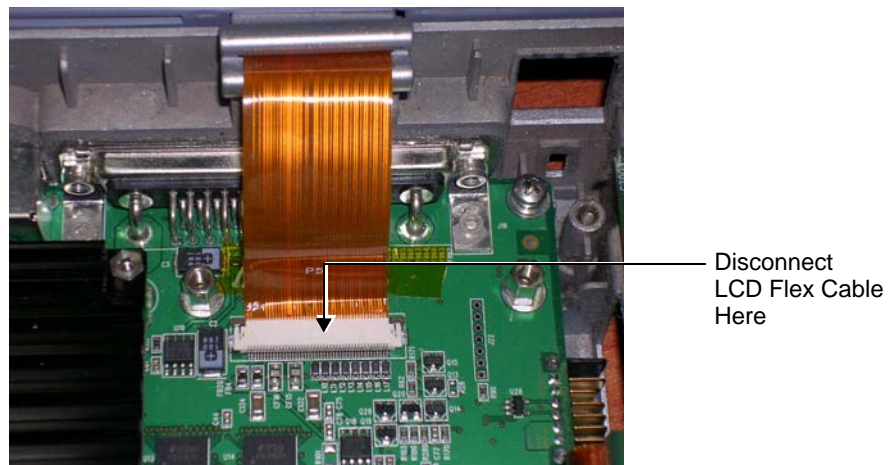

Figure 8-15 LCD Flex Cable Connected to BEP
- 2.) Disconnect the LCD Flex ribbon cable from the BEP, as shown in Figure 8-15.
- 5.) Reconnect the LCD flex cable to the BEP (refer to Figure 8-15 on page 8-16).